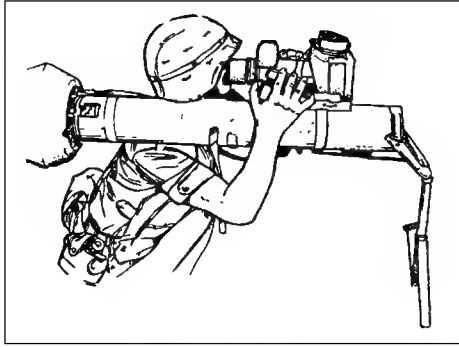
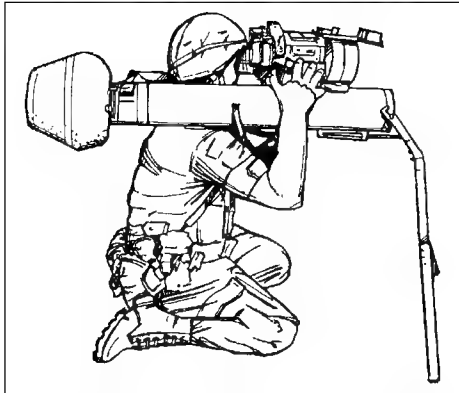

Figure 5-3. Standing supported position (fighting position).
Figure 5-4. Kneeling position.
b. **Standing Supported Position.** Demonstrate the standing supported position, then have the soldiers assume it also (Figure 5-3, page 5-4). Instruct them as follows:
(1) While standing in an individual fighting position or behind a support, place the bipod legs to your front. Place it at such a distance that you must reach for the round.
(2) Spread your legs a comfortable distance apart, keeping them straight. Place the round on your shoulder muscle.
(3) Lean forward against the wall of the fighting position to support your body from the waist down, so that you are in a stable firing position.
(4) Grip the sight as you did in the sitting position. Pull backward and down, while straightening your upper body slightly; this removes any slack in the bipod.
(5) Place your upper body, arms, hands, head, and eyes in the same position as you did when you assumed the sitting position.
c. **Kneeling Position.** Kneel, and spread your knees a comfortable distance apart. Position the bipod so that you have to lean forward to position your eye in the eye guard (Figure 5-4). Grasp the sight as previously described. Assume the same upper body position you did for the other firing positions. Place the round on your shoulder muscle, keeping it tight against your neck. As you lower your buttocks to your heels, take the slack out of the bipod. Try to sit on your heels so you will have a stable firing platform.